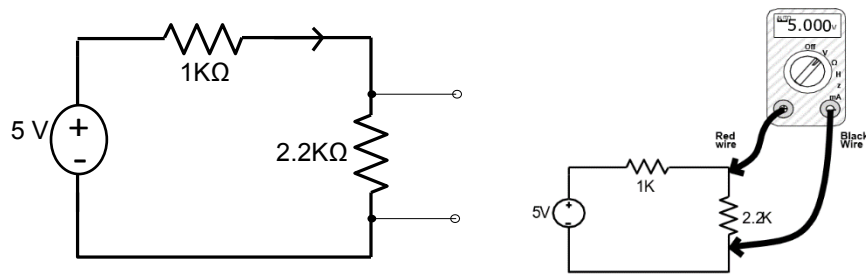

Figure 1.4: Circuit diagram and actual connection for measuring voltage
1. To measure the voltage across the $1K\Omega$ resistor circuit in Fig 1.4 (a), construct the circuit as shown in Fig 1.4 (b).
3. Connect the red and black multimeter lead as shown in the Fig 1.4(a) (parallel to the resistor)